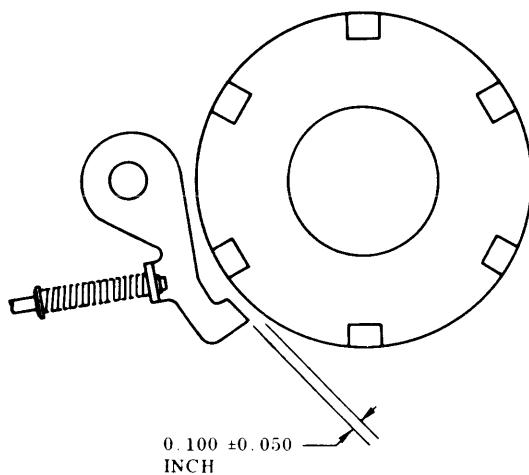

FIGURE 5-14. BRAKE PAWL-TO-SPINDLE PULLEY CLEARANCE
6. Check brake pawl-to-pulley clearance. If necessary, deform the linkage rod to provide the necessary clearance (0.100 ± 0.050 inches). See Figure 5-14.